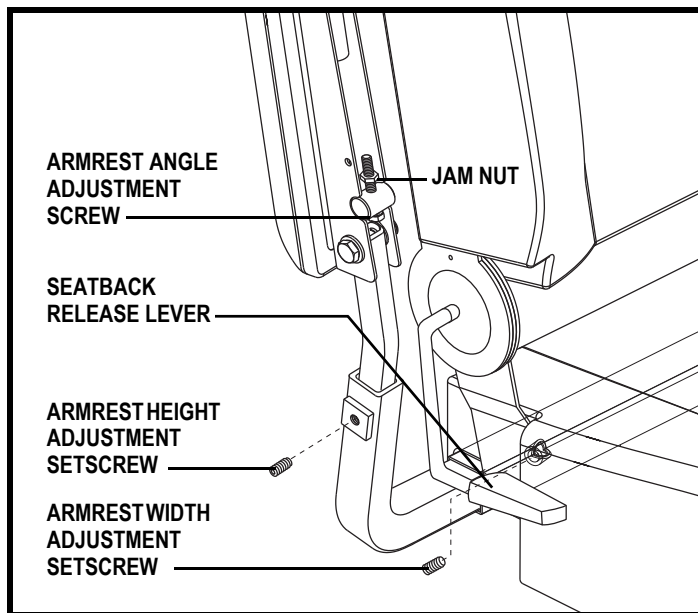

Figure 9. Armrest and Seatback Adjustments
If your power chair is equipped with a manual recline seatback, you can adjust the seatback angle with the seatback release lever. The lever is located on the right side of the seat base. See **figure 9**.
1. Locate the armrest width adjustment setscrew on each side of the armrest receiver bracket. See **figure 9**.
1. Loosen the setscrew on the armrest. See **figure 9**.